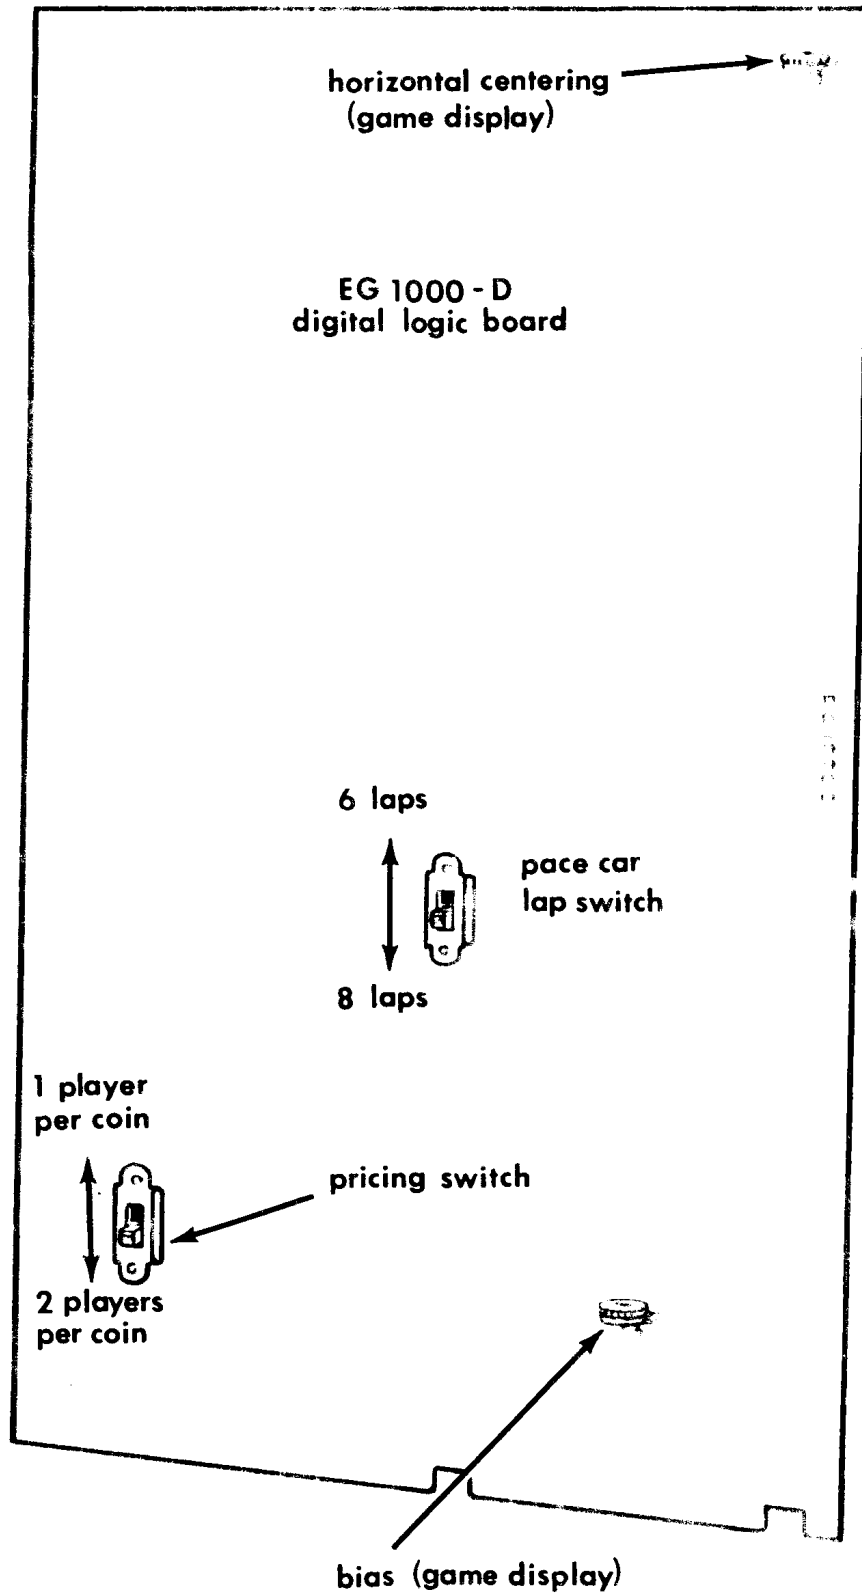

Figure 8
The pricing switch on the EG1000-D digital logic board is shown set for "Two Players per Coin" (see Figure 8). By setting the Pricing Switch to the "One Player per Coin" position, Pricing is automatically changed.
Pace Car laps - The Pace Car may be set-up to complete Six (6) or Eight (8) laps. The Game is shipped set for Six (6) laps. To set for Eight (8) laps, the Pace Car Lap Switch on the EG1000-D Digital Logic Board must be switched to the "Eight" lap position. (See Figure 8.)
Game Display Bias Control - This control is located on EG1000-D Digital Logic Board. (Refer to Figure 8.) Adjusts horizontal and vertical sync input to the TV input. Adjust for best picture.
Game Display Centering - This control is located on EG1000-D Digital Logic Board. (Refer to Figure 8.) Centers the picture on the TV horizontally.